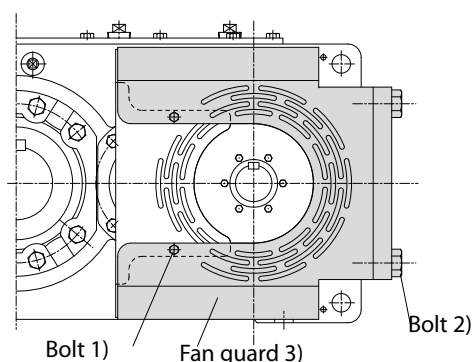

Fig. 4
1. Unscrew bolts 1) and 2) and then remove the fan guard 1). (Fig. 4).